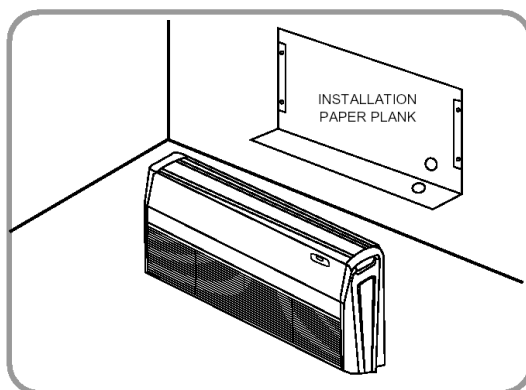

Fig.2
1. Determine the mounting position on ceiling or wall by using paper pattern to indicate indoor frame. Mark the pattern and pull out the paper pattern. (Refer to Fig.2)